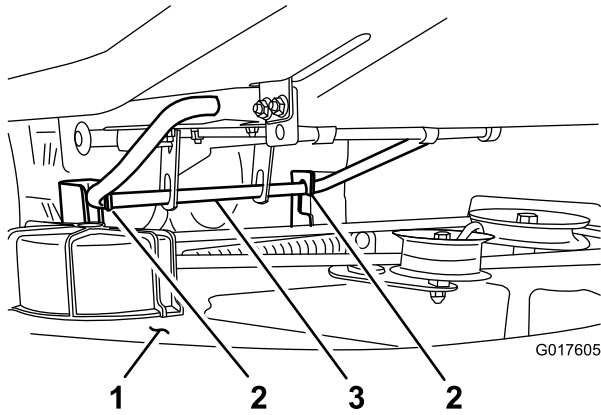

Figure 34
- Lift the mower deck and the hanger brackets clear of the rear lift rod, and lower the mower carefully to the ground (Figure 34).
- Lift the rear of the mower deck, and guide the hanger brackets over the rear lift rod (Figure 34).